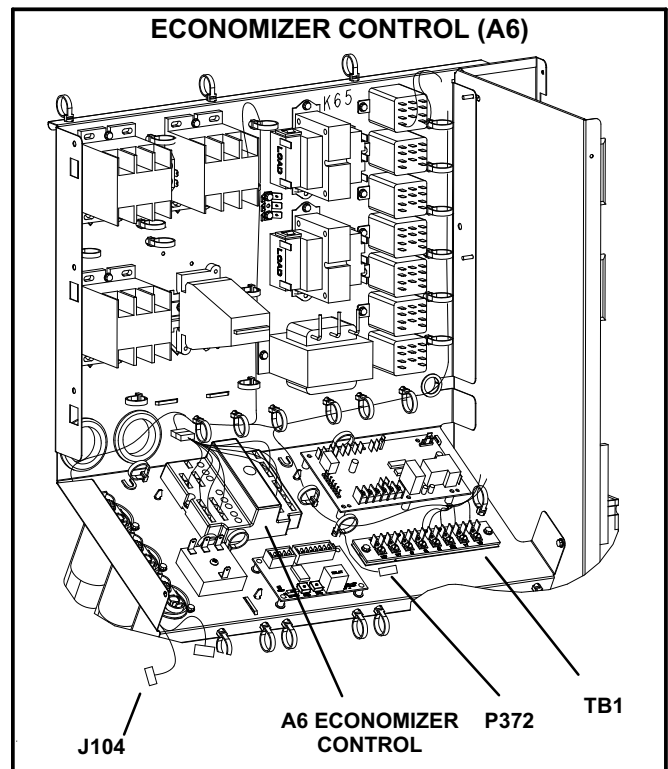

FIGURE 2
- 1- Install A6 economizer control below control panel as shown in figure 2. Secure with #6 - 32 X 7/8" TFS screws provided.